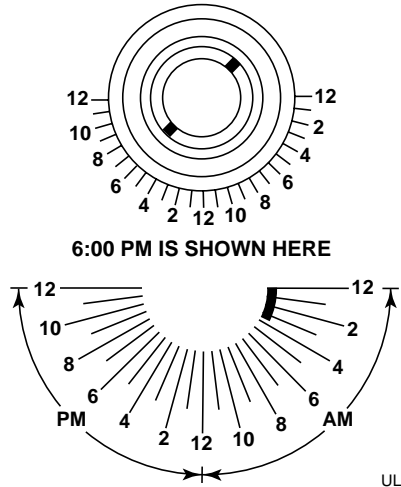

Figure 32
4. Model 29AD only - The automatic defrost timer, located behind the front grill, must be set whenever the refrigerator is put into operation. To set the defrost timer, proceed as follows (see Figure 32):